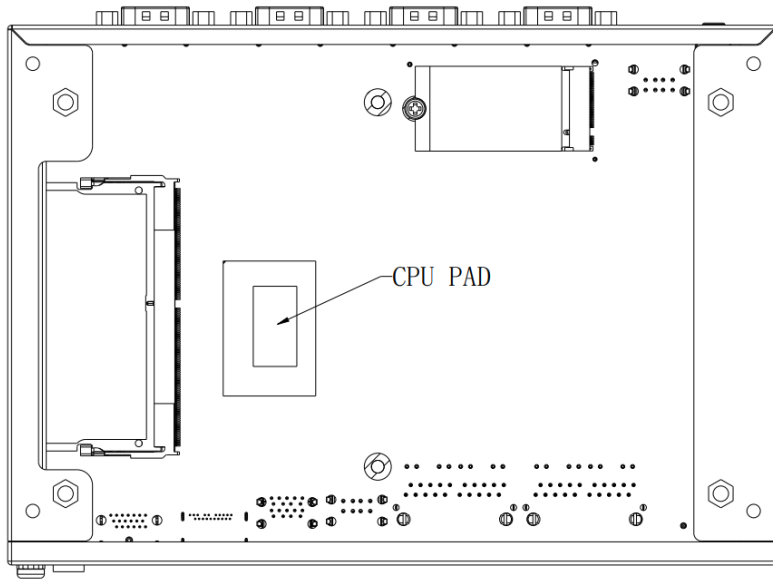

Figure 3.2-3
3. Attach the CPU PAD to the CPU chip or remove it from the CPU chip; as shown in Figure 3.2-3